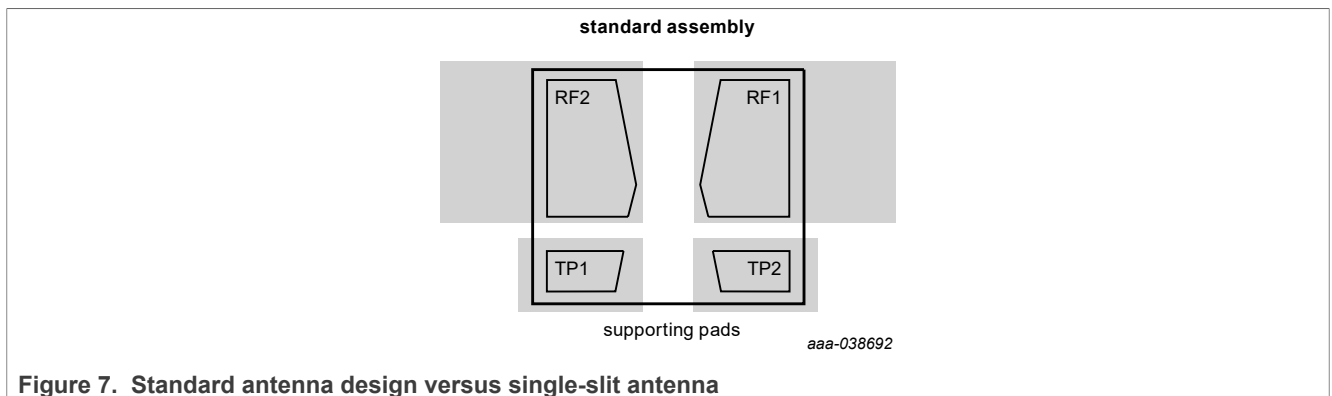

Figure 7. Standard antenna design versus single-slit antenna
In UCODE 9, the test pads TP1 and TP2 are electrically disconnected and therefore can be safely short-circuited to the RF pads (RF1, RF2). See Figure 7.
- [6] see Figure 7